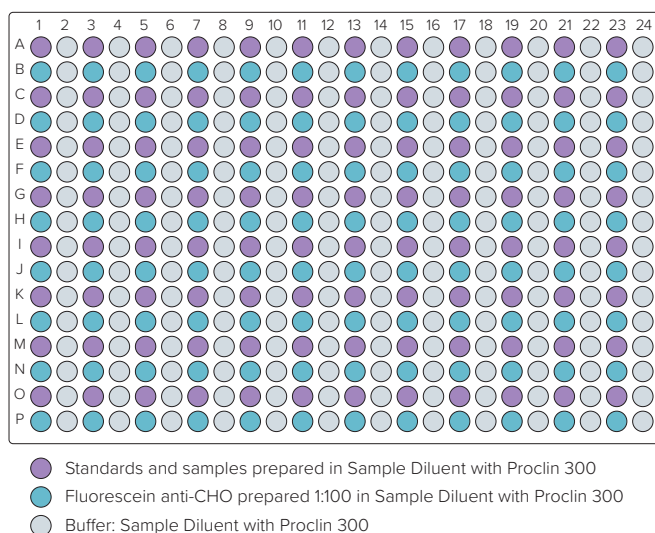

Figure 2: Sample Plate layout for 96 biosensor mode in 384-well plate for Octet HTX system.
- 3 Prepare the Sample Plate (example plate layout shown in Figure 2):
- 4 Define the Sample Plate layout to correspond to the layout in Figure 2.